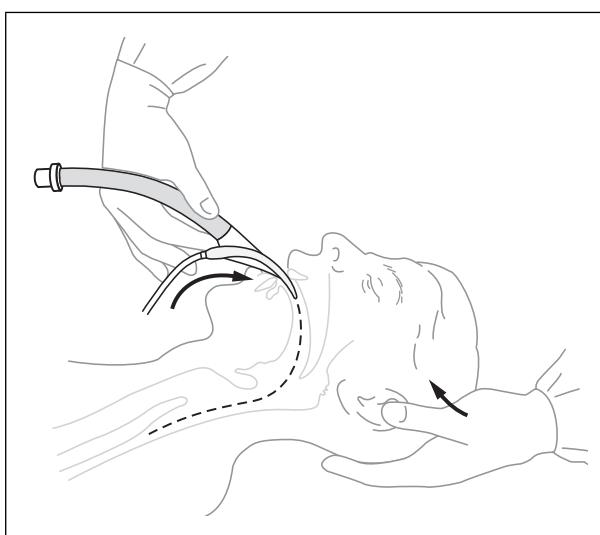

Figure 2
Keep the neck flexed and the head extended by pushing the head from behind with one hand while inserting the mask into the mouth with the other hand (Figure 2).
3. When inserting the mask, hold it like a pen with the index finger placed anteriorly at the junction of the cuff and tube (Figure 2). Press the tip up against the hard palate and verify it lies flat against the palate and that the tip is not folded over, before pushing further into the pharynx.